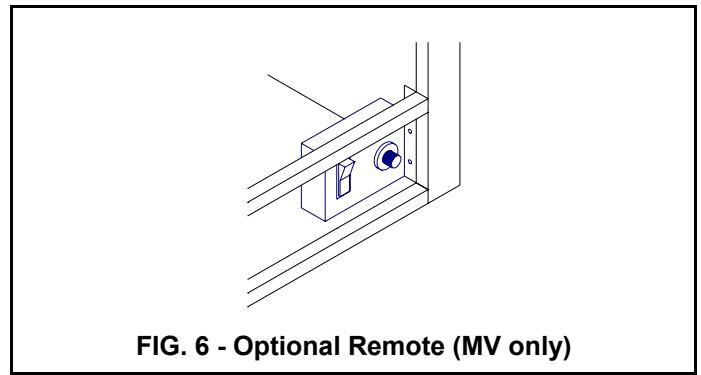

FIG. 6 - Optional Remote (MV only)
1. Install the remote control unit into remote control bracket and using (2)#8 Phillips screws. Be sure that the word "TOP" is on the left-hand side of the unit. Tighten screws to a point where 2-3 threads are visible from the rear of the bracket. This will allow enough clearance for the remote cover to slide onto unit. If unit is loose, tighten screws slightly until unit is snug with cover on. (**Fig 6.**)